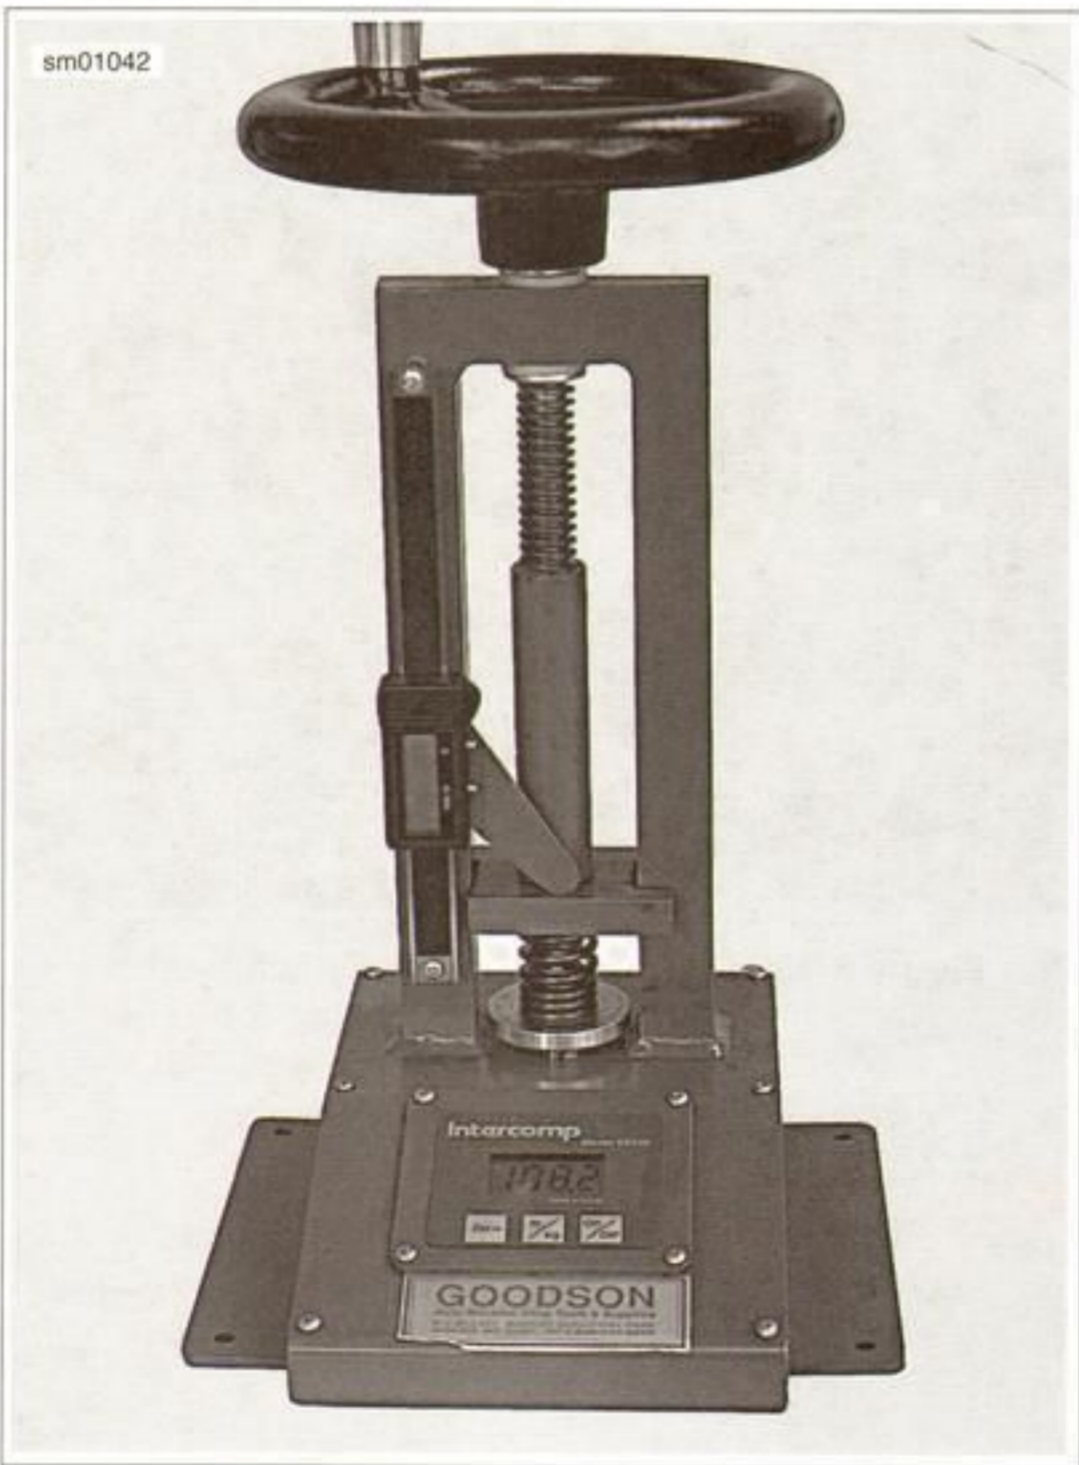

Figure 6-42. Testing Valve Spring
2. See Figure 6-42. Measure the spring force at the specified length. If any one spring is less than specification, replace the set (6) of springs. Refer to Table 6-9.